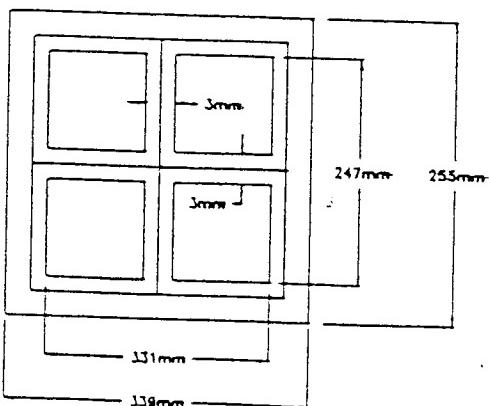

Fig. 4.3.1.6 Geometry Target Limits
Pre-adjust brightness to approximately 15FL with raster visible. Video must be centered in raster (R229) such that left hand visible raster is equal to or 2mm larger than right hand visible raster (see Fig. 4.3.1.4). The width control may be adjusted to bring the raster edges just within the bezel opening.
Start with circular magnets (centering magnets) in neutral position i.e. slotted ear of one magnet aligned with plain ear of other magnet, both positioned so that the ears are in the horizontal position of raster. Adjust magnets simultaneously and in opposite directions so as to avoid bending horizontal lines and centering active image within bezel gauge. (see Fig. 4.3.1.6).
This should center horizontally and vertically a cross hair target pattern such that center lines are within the target windows of Fig. 4.3.1.6. The vertical center line shall be at $90^\circ \pm 0.5$ to the horizontal center line within a 2" radius of screen center.
- Turn R504 (dynamic focus modulation) to minimum. (CW)
- Tune T501 (dynamic focus phase) with non metallic screw driver to obtain symmetrical pattern as per Fig. 4.3.1.8.1 with respect to video waveform.